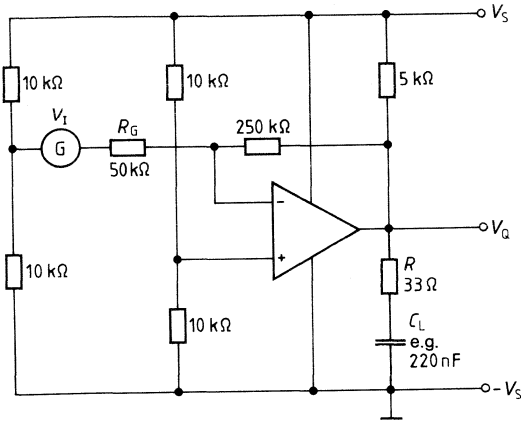

Figure 1
- Limitation of the output current surges (**Figs. 1, 3, 4**)
In other cases it may be necessary to use a stronger frequency compensation and/or a forward compensation from the input to the output (see TAA 762, test circuit 2 and **(fig. 1)**).